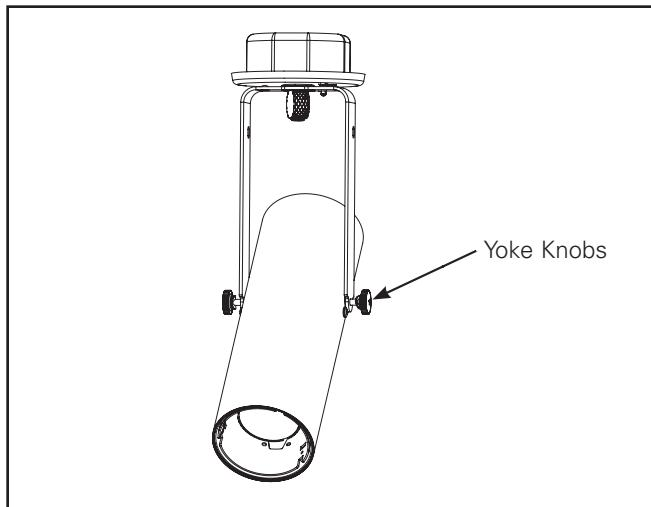

Figure 5
6. Once installed to J-box, loosen yoke knobs to tilt cylinder to desired location. (Figure 5)